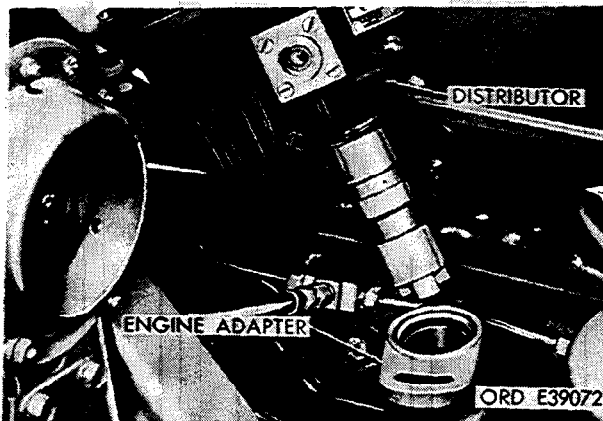

Figure 2-148. Lift distributor out of adapter.
(4) Lift distributor out of adapter (fig. 2-148).
*b. Installation.* Install distributor on the vehicle by reversing removal operations. Refer to figures 2-148 back to 2-145. After installing distributor, perform ignition adjustment operations as described in paragraph 2-71.